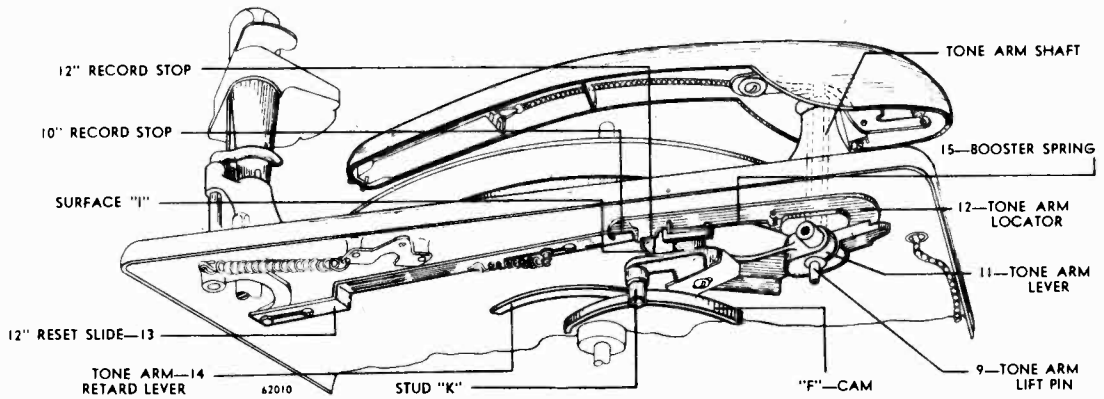

FIGURE 10. CUTAWAY BOTTOM VIEW DRIVE GEAR
4. Cam surface "g" moves the tone arm latch lever (21) so as to unlatch the tone arm lever (11) at point "x". Thereafter the stud "k" on the tone arm lever follows the receding cam "f", shown in figure 10.
5. Spring pressure from tone arm locator (12) moves the tone arm lever (11) and tone arm toward the record. Selector arm settings determine the point at which the tone arm locator (12) stops at surface "1" on the 12" reset slide (13). Sketch above shows 10" and 12" record stops.
6. Stud "k" is contacted by the retard lever (14) holding it in position during the time of lowering the needle on the record. (See retard lever.)
7. Tone arm lift pin (9) follows vertical cam on drive gear and lowers tone arm to the record. After the needle has touched the record, booster spring (15) exerts a slight pressure, causing the needle to enter starting groove.
8. As the needle starts in the groove, drive gear (8) completes its rotation and is locked in open-tooth position by the drive gear stop lever (16) in detent in cam "g".
D. AUTOMATIC TRIPPING—At the end of a record, the needle enters the cut-off groove and a new change cycle is set in motion by either of two actions releasing the clutch engagement lever (6).